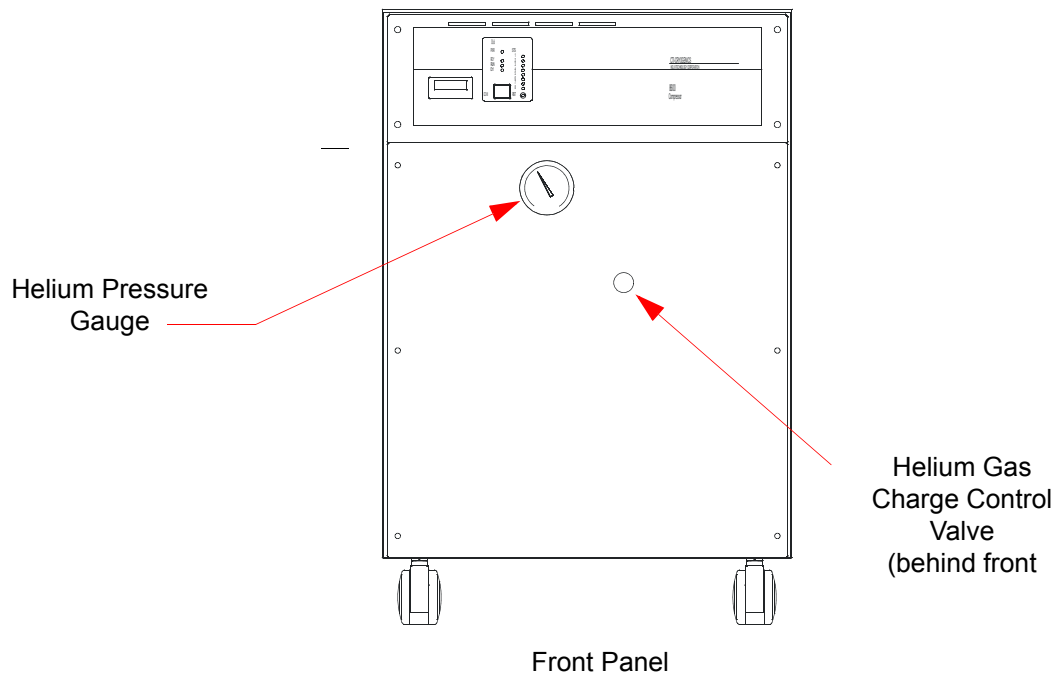

Figure 6-6: Helium Pressure Control Components, Type 02 Shown
4. Remove the flare cap from the gas charge flared fitting (see Figure 6-6 on page 6-9).